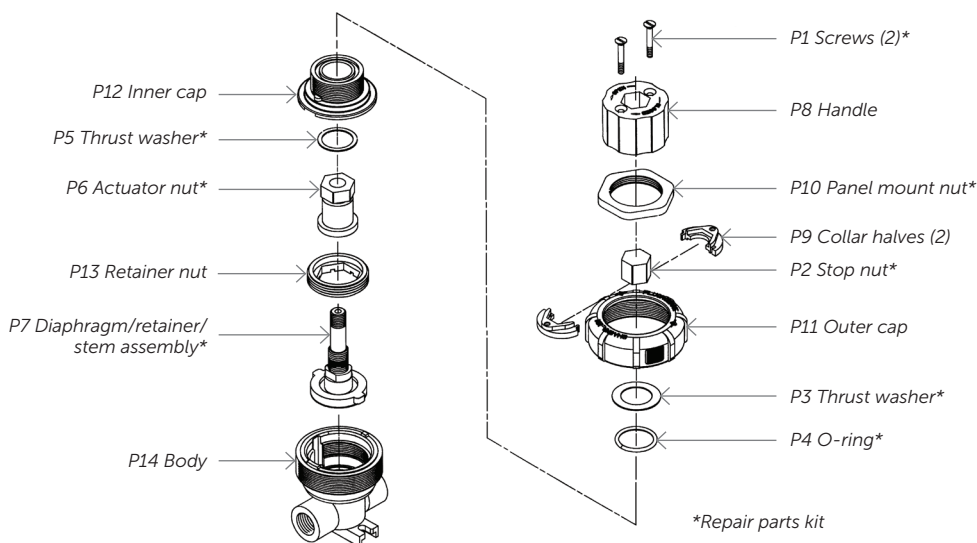

Figure 1.
1. Begin disassembly by referring to Figure 1.